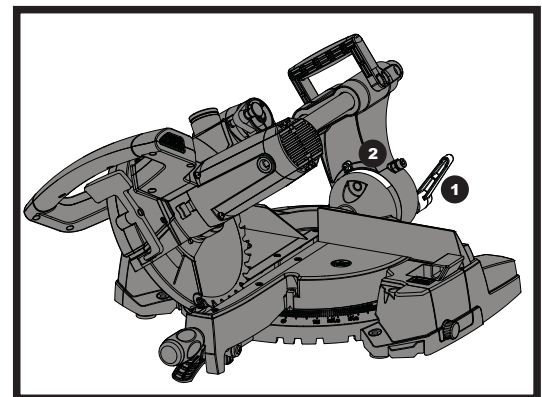

Fig 31
- 1) When a bevel cut is required, loosen the bevel lock handle (1) by turning it clockwise.
- 2) Tilt the cutting head to the desired angle, as shown on the bevel scale (2)
- 3) The blade can be positioned at any angle, from a 90° straight cut (0° on the scale) to a 45° left bevel. Tighten the bevel lock handle (1) to lock the cutting head in position. Positive stops are provided at 0°, 33.9° and 45°. (See fig. 31)